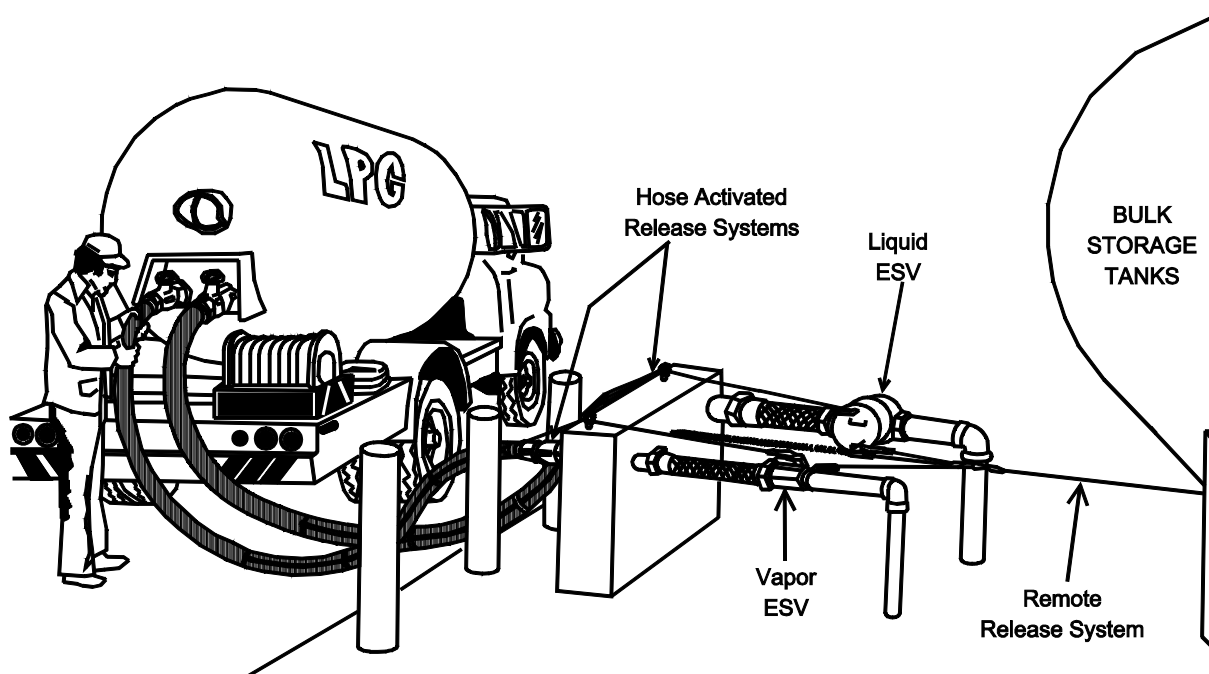

Figure 8. Tank Truck Unloading Station.
- Install the same features on rail car loading racks as truck loading racks. Also, install a FSEBV as the bottom loading valve. Activate it by a drag wire, which is a 50 ft (15 m) wire attached to the bottom valve (Figure 8).